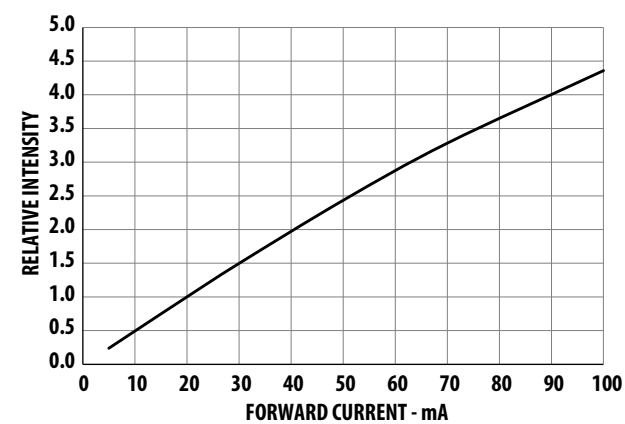

Figure 6: Maximum Forward Current vs. Ambient Temperature
a. Derate linearly as shown in Figure 6.